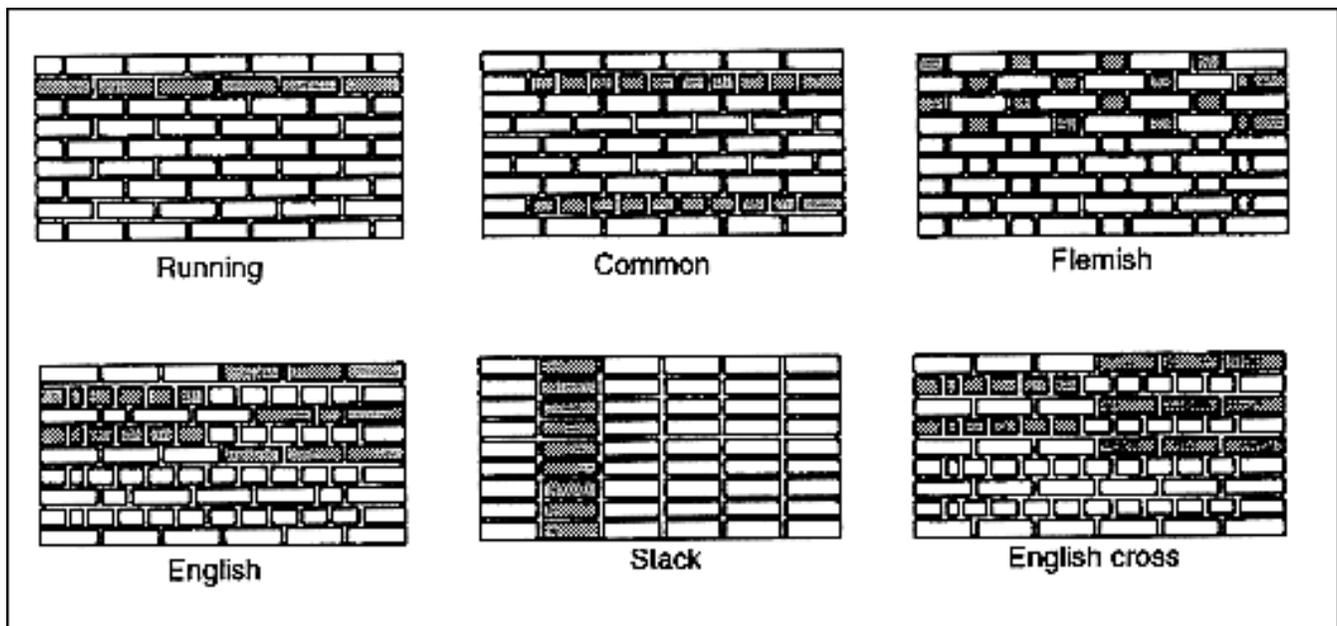

Figure 9-4. Types of masonry bond
- **Pattern Bond.** This is pattern formed by the masonry units and mortar joints on the face of a wall. The pattern may result from the structural bond or may be purely decorative and unrelated to the structural bond. Figure 9-4 shows the six basic bond patterns in common use today: running bond, common or American bond, Flemish bond, English bond, stack bond, and English cross or Dutch bond.
- Stack bond. This is purely a pattern bond, with no overlapping units and all vertical joints aligning. You must use dimensional-accurate or prematched units to achieve good vertical joint alignment. You can vary the pattern with combinations and modifications of the basic patterns shown in Figure 9-4. This pattern usually bonds to the backing with rigid steel ties, or 8-inch-thick stretcher units when available. In large wall areas or for load-bearing construction, insert steel-pencil rods into the horizontal mortar joints as reinforcement.